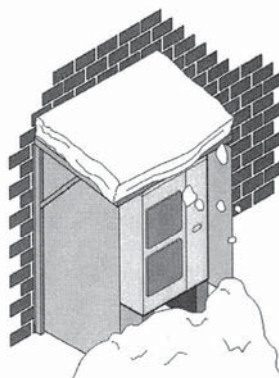

Figure 2: construction to prevent affect of snow to the unit
- Recommended installation set-up. (See "Installation and Service space" information sheet and figure 2)